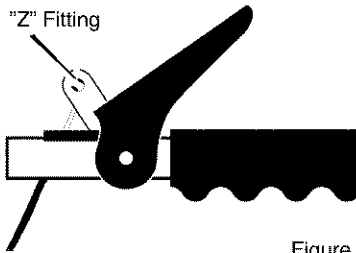

Figure 30
**To check for correct adjustment, unhook "Z" fitting at clutch lever (see Figure 30)**